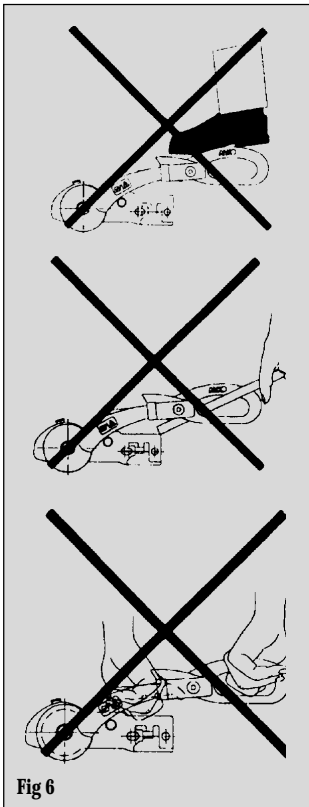

Fig 6
1) During opening or closing, the AKS must only be operated by one person. 2) Press stabiliser lever down by hand force only **DO NOT** use your foot or an extension bar, this will damage the components (Fig. 6).
3) When opening or closing the stabiliser lever, please ensure your hand does not touch the coupling handle - you may accidentally trap your fingers! (Fig. 6).